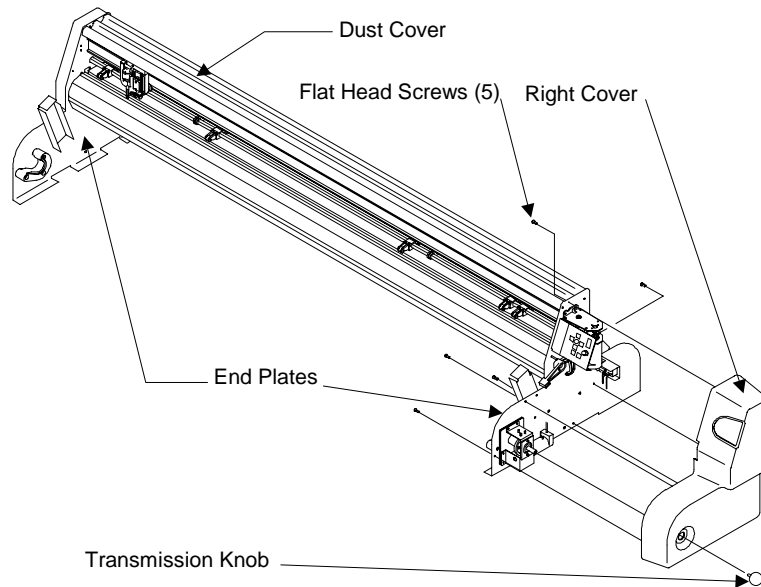

Figure 6. Removing the Transmission Knob and the Right Cover
1. Unscrew and remove the round black transmission knob from the roll feed transmission drive shaft on the right side of the Summit 910. Note the position of the transmission knob in Figure 6.
6. Reinstall the five black, flat head screws to reattach the right end cover to the right side of the Summit 910. Install the top screw first. Use the access hole in the stand leg to install the lower screw. Refer to Figure 6.